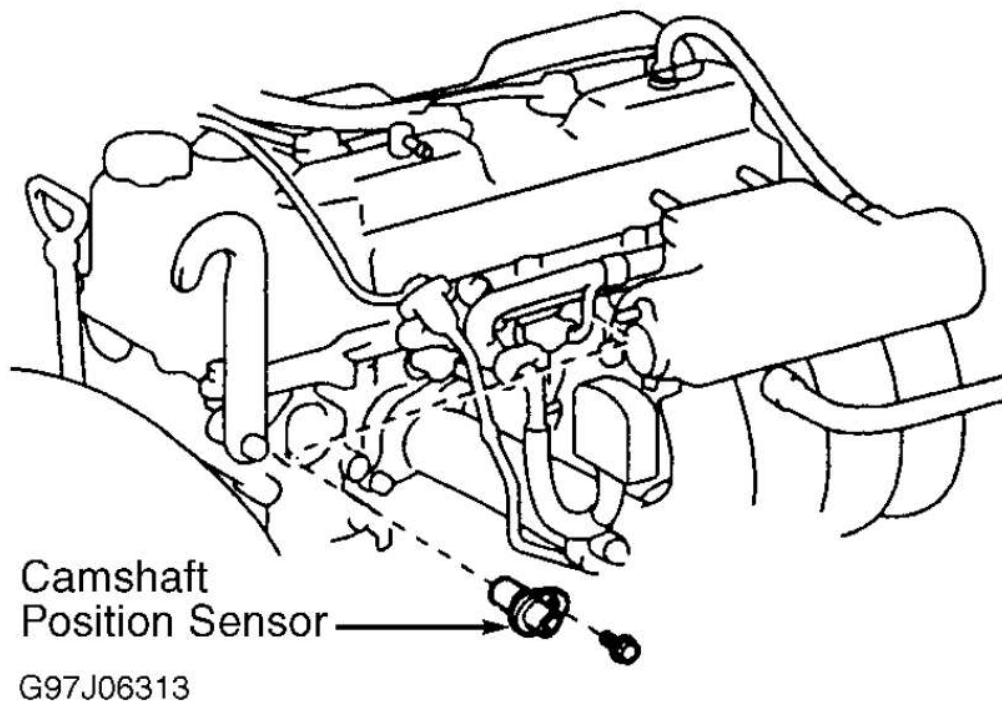

Fig. 45: Locating Camshaft Position Sensor (Tacoma)
1. Disconnect electrical connector at camshaft position sensor. Camshaft position sensor is located on cylinder head, just in front of intake manifold. See **Fig. 45**. Using ohmmeter, check resistance between electrical terminals on camshaft position sensor.